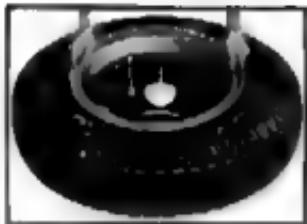

Fig. 83
6. The two cutaway sections opposite each other "A" (fig. 83) on inner diameter of side ring are positioned so as to span the rim gutter.
7. At point "C" (fig. 83), opposite valve, force ring into rim gutter as far as possible.